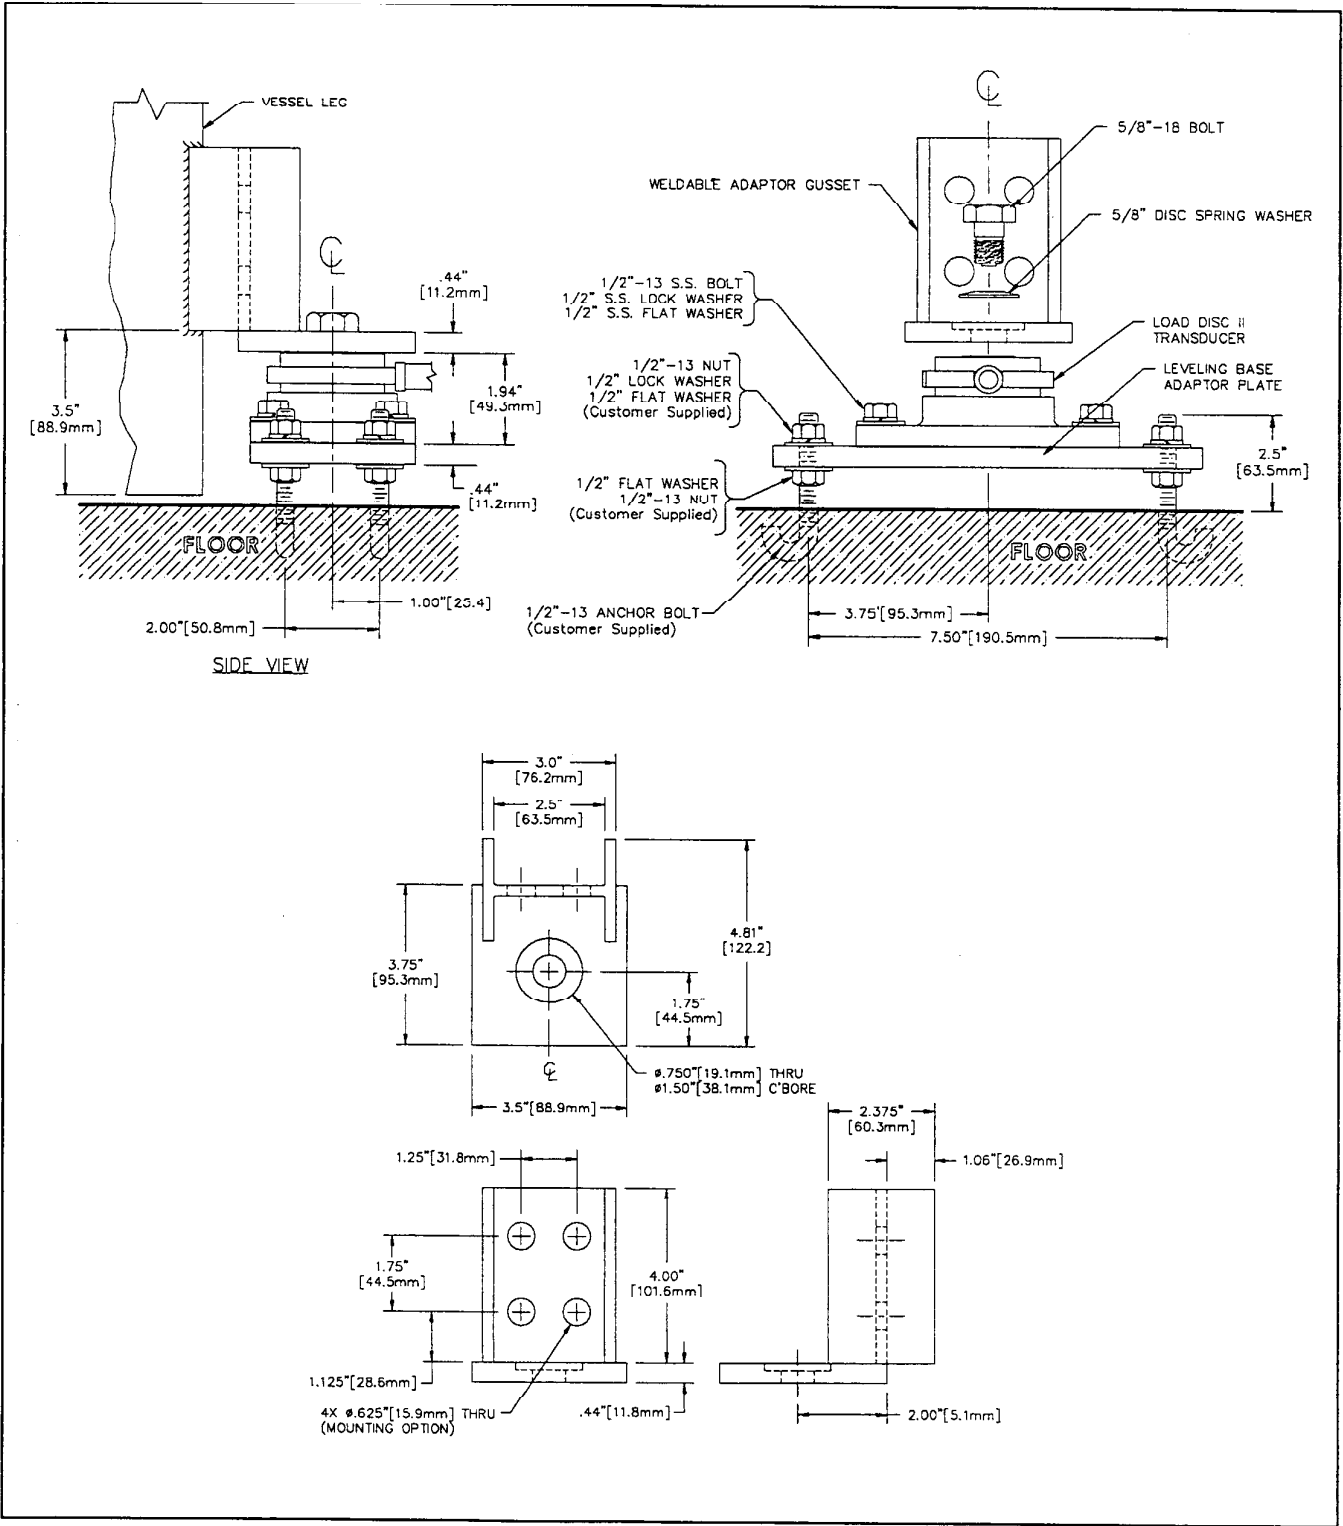

Figure 2-11. 150-25K lb Load Disc II Transducer with Weldable Adaptor Gusset and Leveling Base Adaptor Plate.
1. Initially bolt the Load Disc II on the leveling base adaptor plate using the four 1/2"-13 bolts and the flat and lock washers. Bolt the weldable gusset adaptor plate on top of the Load Disc II transducer using the 5/8"-18 hex bolt and the spring washer. Orient the gusset perpendicular to the base plate (Figure 2-11).